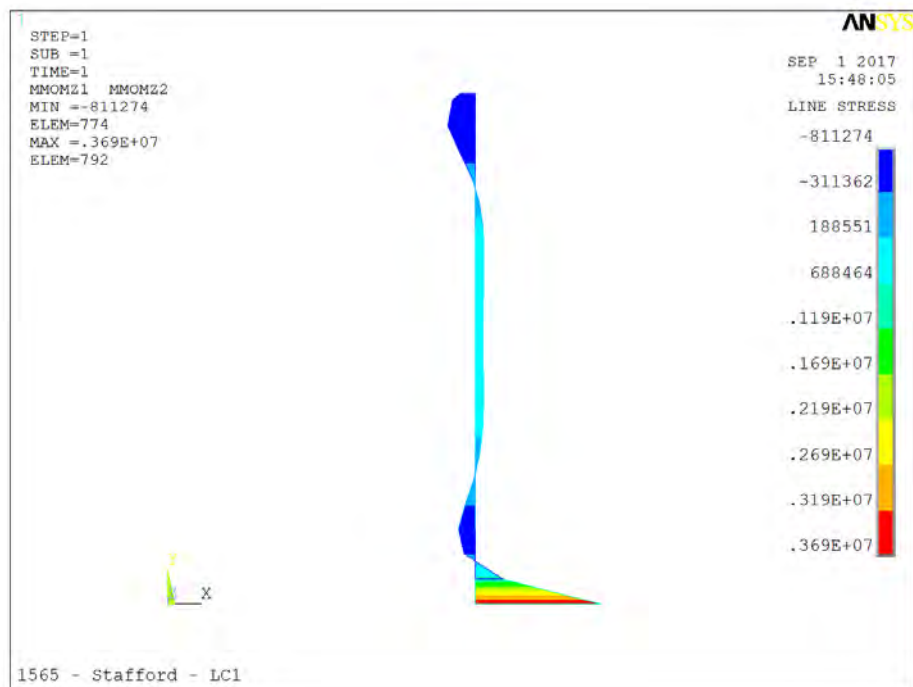

Fig. 1F
- **Fig. 1F - Wall moment (lbs-in/360)**